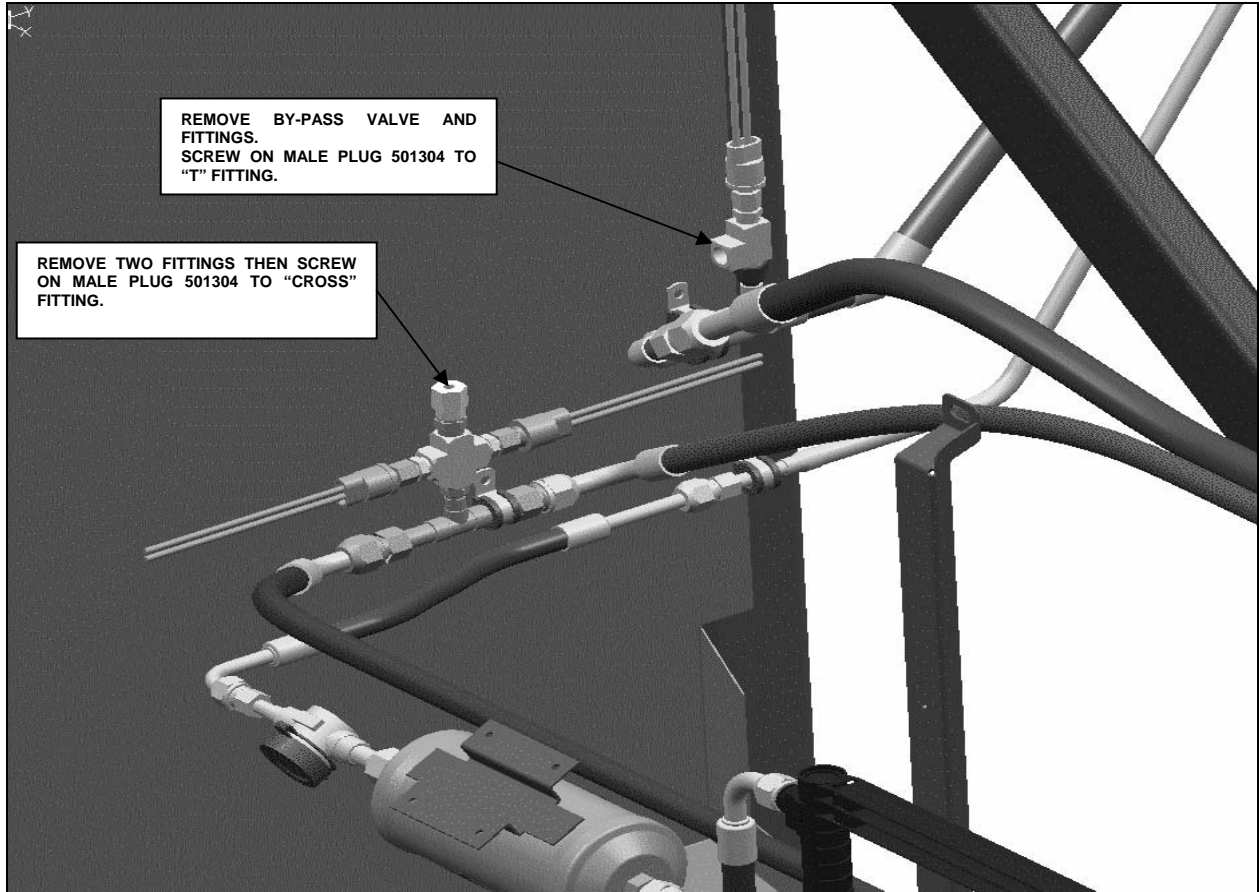

FIGURE 17
6. Disconnect low pressure hose then remove by-pass valve, screw on male plug (501304) to the low pressure switch "T" connector. Also, screw on male plug (501304) to the high pressure side "cross" connector (refer to figure 17).